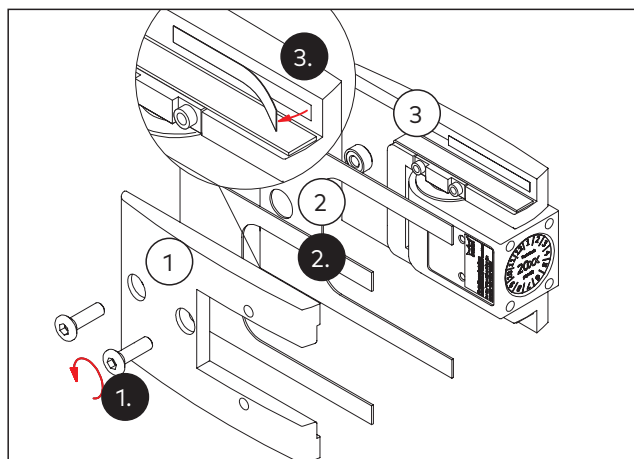

Fig. 14 Preparing the double-action hinge
1. Unscrew the counter-plate (Fig. 14/1).
2. Select the appropriate gaskets (Fig. 14/2) according to the glass thickness (see Chapter 4.2).
3. Peel off the protective film of the adhesive tape on the base- and counter-plate (Fig. 14/3).